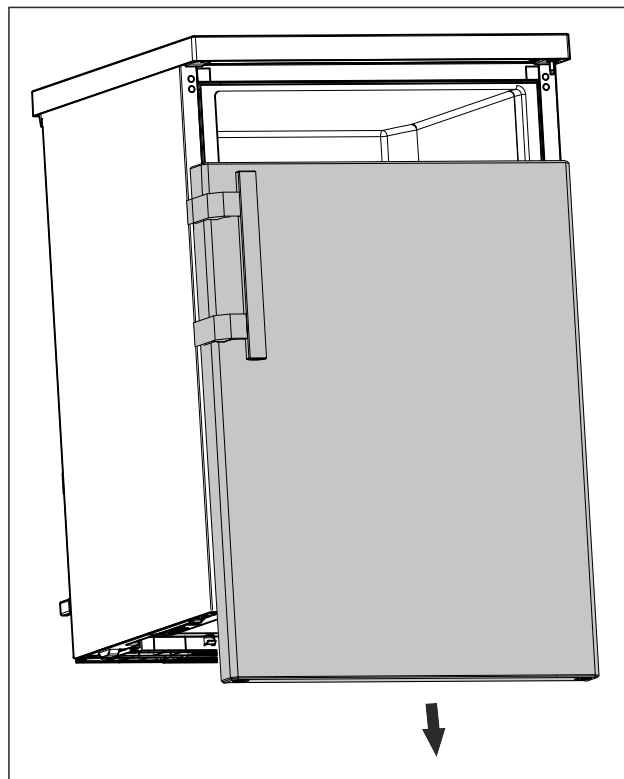

Fig. 9
- Remove the door downwards. (see Fig. 9)